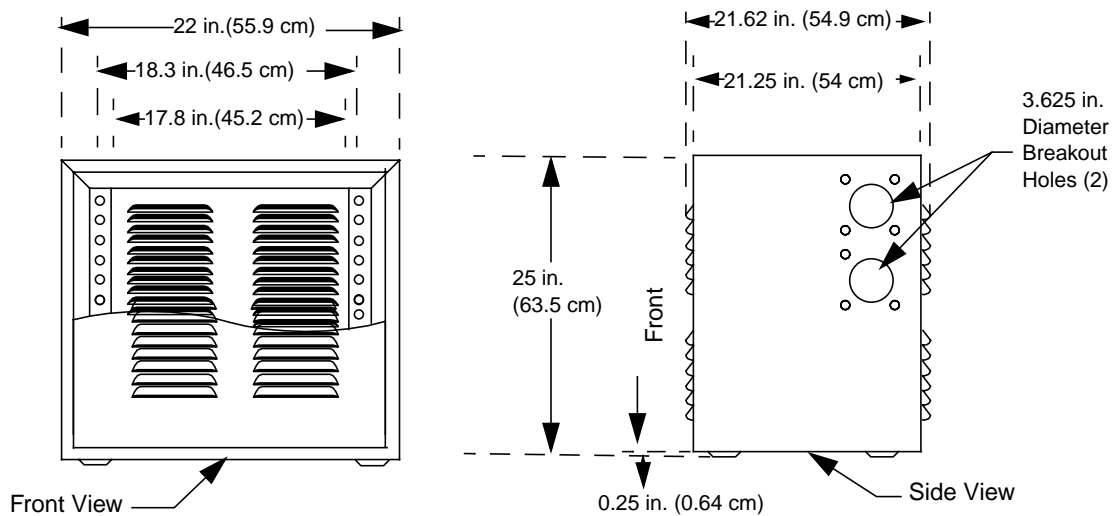

Figure 3-5: Front and Side View of the 25-in. Station Cabinet
- Front view (see Figure 3-5)
- Side view (see Figure 3-5)